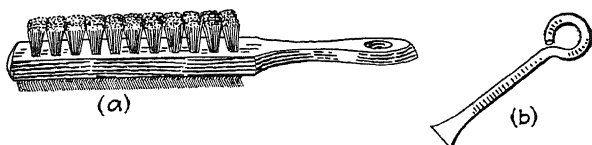

FIG. 226.—File cleaner.
**261. Care of Files: Pinning.**—There is always a tendency, especially when filing narrow surfaces or corners, to have the file "pin," that is, small particles of the material being filed get wedged in front of the teeth of the file and scratch the work. Keep the file clean either with a "file card" (*a*, Fig. 226), or by pushing the dirt from between the teeth with a piece of soft steel, brass, or copper flattened thin on the end (*b*, Fig. 226).